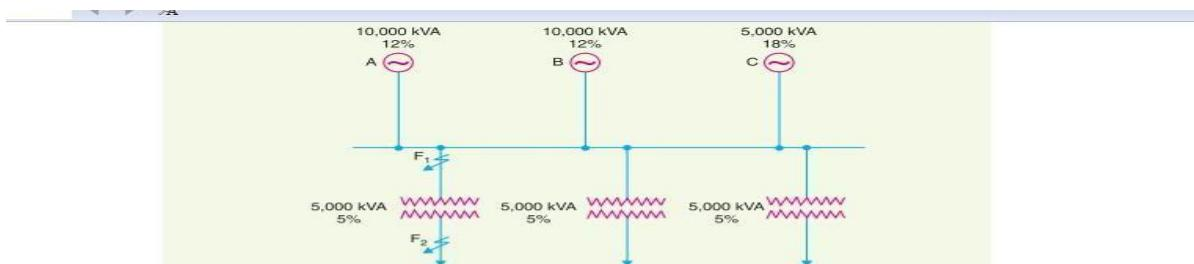
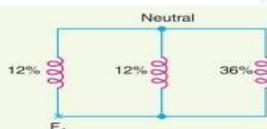
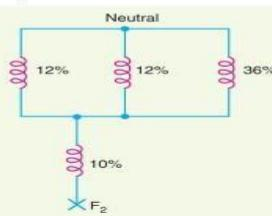

Fig. 17.11
Fig. 17.12
Fig. 17.13
Solution. Fig. 17.11 shows the single line diagram of the network. Let 10,000 kVA be the base kVA.
- (i) When the fault occurs on the low voltage side of the transformer (point F_1 in Fig. 17.11), the reactance diagram at the selected base kVA will be as shown in Fig. 17.12. Obviously, the
- (ii) When the fault occurs on the high voltage side of the transformer (point F_2 in Fig. 17.11), the reactance diagram will be as shown in Fig. 17.13.